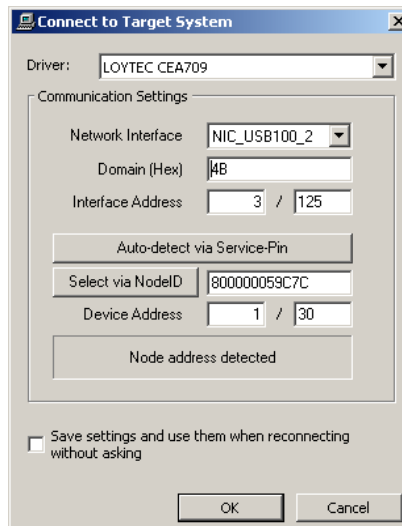

Figure 330: Connect via CEA-709
- **CEA-709:** Select the network interface to use and fill out all other fields, see Figure 330. Alternatively, select the network interface and press Auto-detect via Service-Pin. Then press the service pin on the LINX-110 device. Note that this connection method requires an installed LOYTEC network interface.